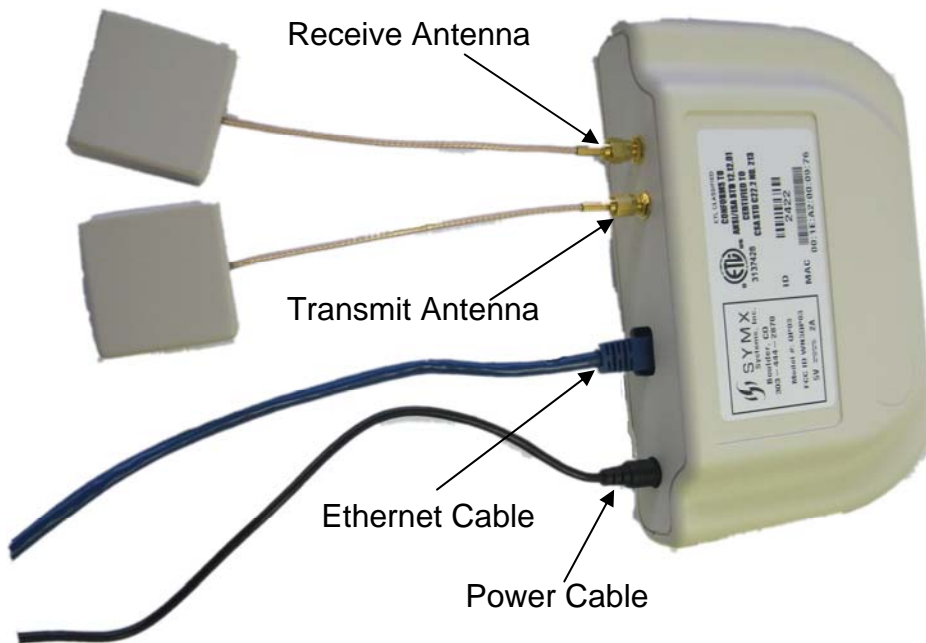

Figure 1: Model QP03 part number RDR-QP03-P01-07 Illustrating external connections
2. Attach the transmit and receive antennas to the Reader and place the antennas in the desired location and orientation. Affix the antennas using an approved method. See Figure 1.
5. Plug the Ethernet patch cable and power cables into the appropriate connectors on the Reader. See Figure 1.